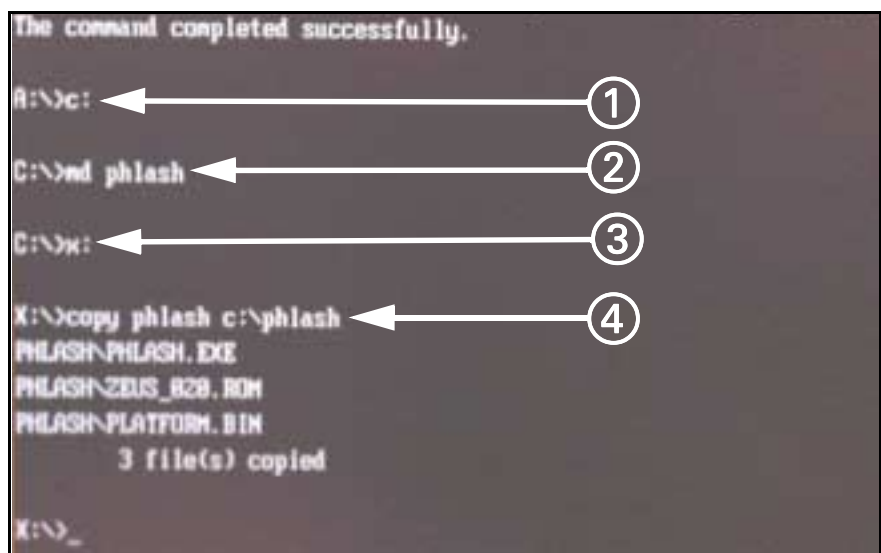

Figure 16-2 DOS Window
3. Type C: (① in Figure 16-2) and press <Enter> at DOS A:> Phlash prompt.
4. Type md^plash (② in Figure 16-2) and press <Enter> at DOS C:> prompt.
5. Type **x:** at DOS C:> prompt (③ in Figure 16-2), and press <Enter>.
6. Type **copy^phlash^c:\phlash** at DOS X:> prompt (④ in Figure 16-2) and press <Enter>.
3. Type **C:** at MDS DOS A:> Phlash prompt (① in Figure 16-2), and press <Enter>.
4. Type **md^plash** at MDS DOS C:> prompt (② in Figure 16-2) and press <Enter>.
5. Type **x:** at MDS DOS C:> prompt (③ in Figure 16-2) and press <Enter>.
6. Type **copy^plash^c:\plash** at MDS DOS X:> prompt (④ in Figure 16-2), and press <Enter>.